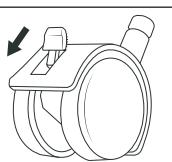

Fig. 6
- ◆ Press the levers on the two castors with locking levers ⑪ downwards once you have parked the appliance in order to prevent the appliance from rolling away (see fig. 6).